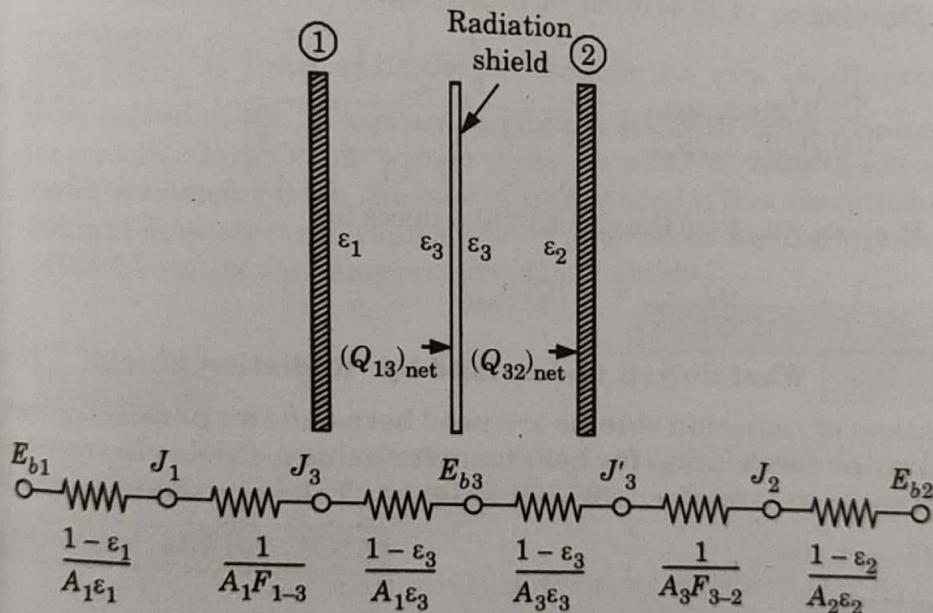

Fig. 4.13.1. Radiation network for two parallel infinite planes separated by one shield.
- Let us consider two parallel plates, 1 and 2, each of area A ($A_1 = A_2 = A$) at temperature t_1 and t_2 respectively with a radiation shield placed between them as shown in Fig. 4.13.1.